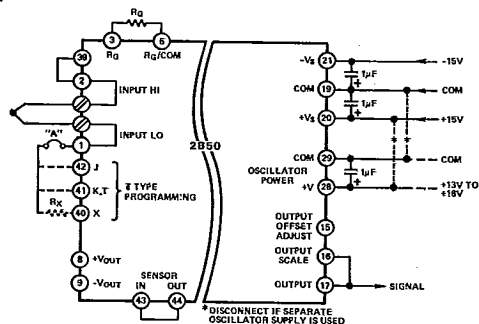

Figure 2. Basic 2B50 Application
The connections shown in Figure 2 are common to most applications using the 2B50, and, in many cases, will be all that is required.
Two sets of parallel thermocouple input connections are provided. The thermocouple input may be connected by screw terminals (Input+, Input-) or to terminal Pins 1(-) and 2(+) in cases where thermocouples are to be remotely terminated. The following sections describe a basic thermocouple application, as well as detail some optional connections to enhance performance in more demanding applications. Jumper A (Figure 2) is used to disconnect cold junction compensation circuitry during offset adjustments.
The gain of the 2B50 is set by a user-supplied resistor ( $R_G$ ) connected as shown in Figure 2. Gain will normally be selected so that the maximum output of the signal source will result in a plus full scale output swing. The resistor value required is determined by the equation:  $R_G = 200k\Omega / (G-1)$ .
2. Disconnect cold junction compensation circuitry by removing Jumper "A" (Figure 2).